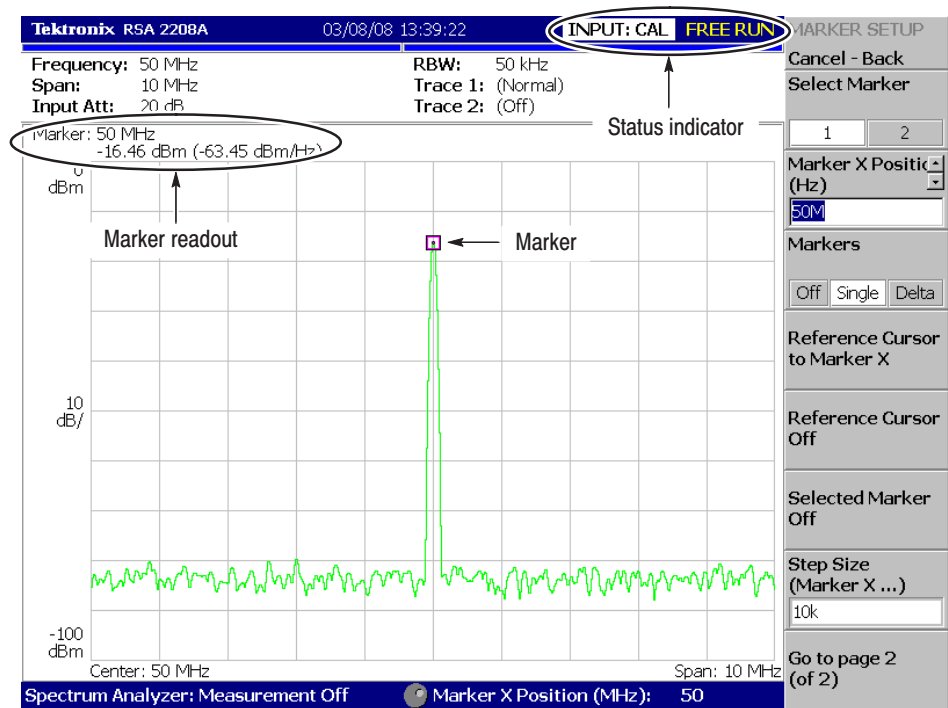

Figure 4-1: Spectrum of the calibration signal (50 MHz, -20 dBm)
- a. Press the **PEAK** key on the front panel to place the marker on the peak (see Figure 4-1).